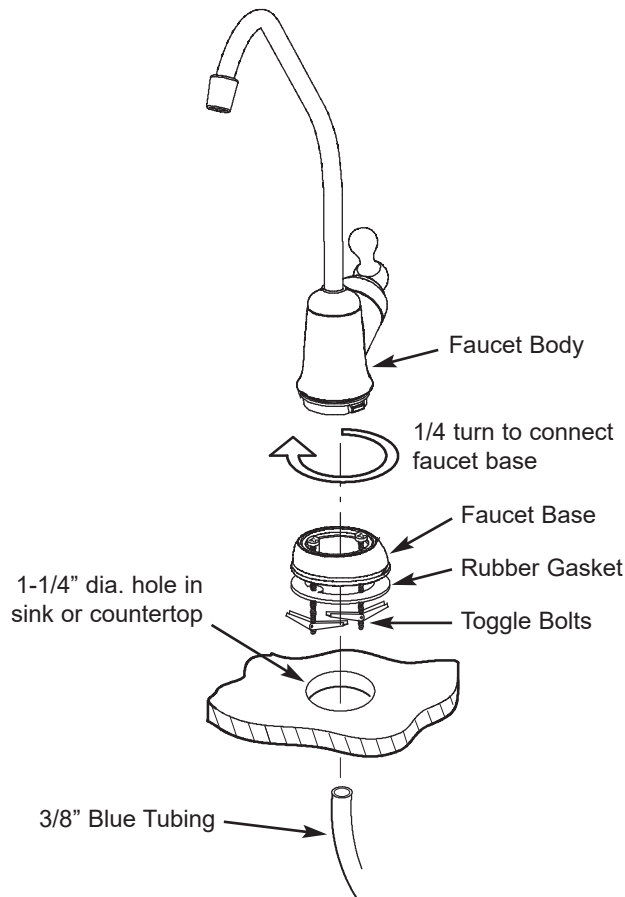

FIG. 4
1. Mount faucet base to sink hole until the faucet base is flat against the sink surface. The rubber gasket should be between the sink surface and the faucet base. See Figure 4.
4. Mount the faucet body on to the faucet base, 1/4 turn. See Figure 4.